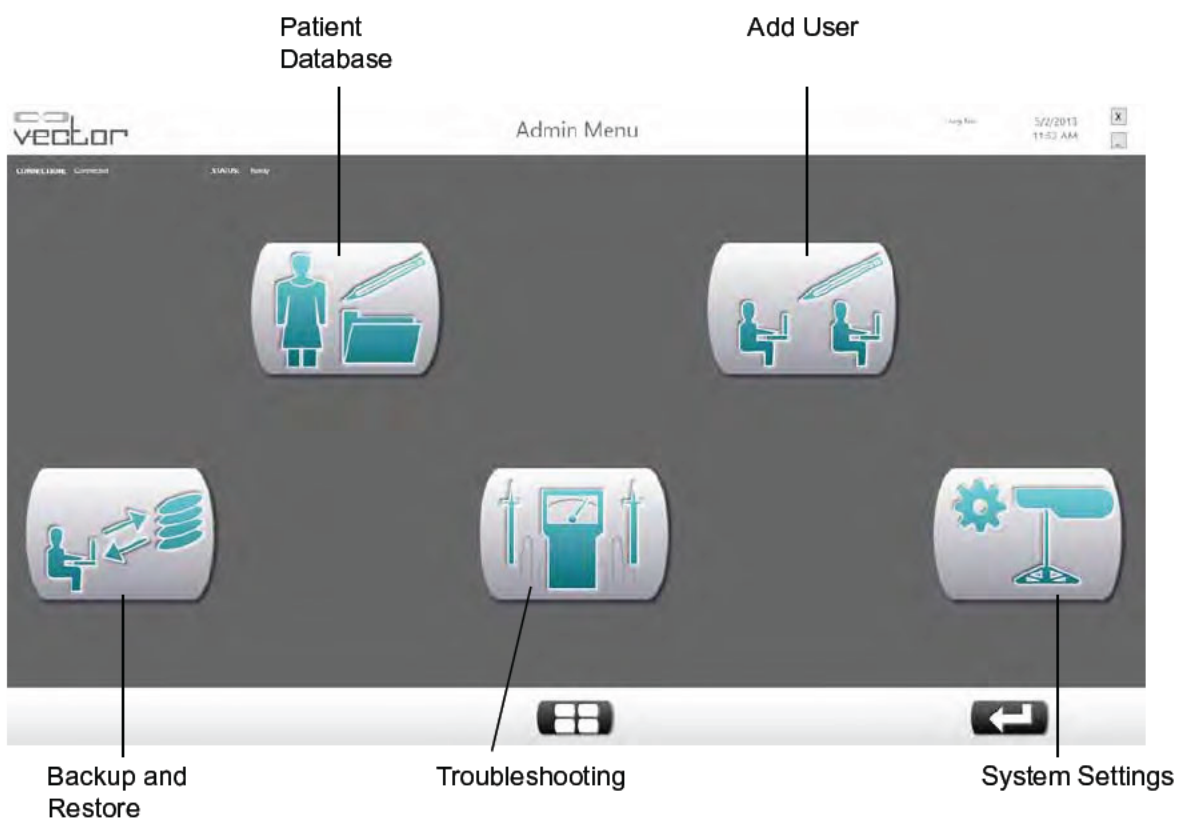

Figure 8-3: Administrator Menu Screen
3. The Administration screen will open. See Figure 8-3.
1. From the Administrator menu screen press on the Patient Database button. See Figure 8-3.
1. Press on the Account Management button. See Figure 8-3.
1. From the Administrator menu screen press on the Backup and Restore button. See Figure 8-3.